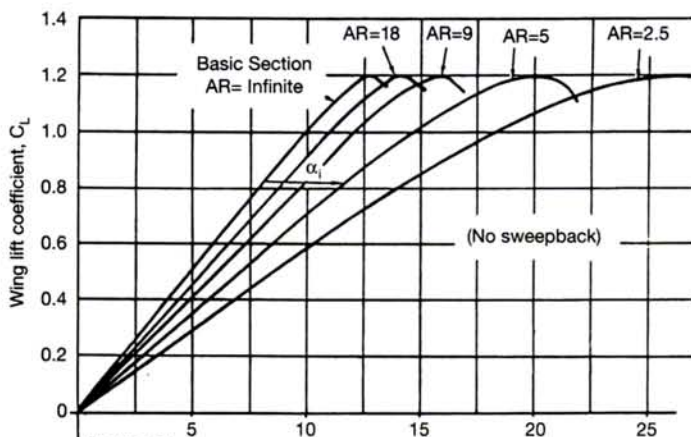

Figure 4A.
- The wing behaves as though its aspect ratio had increased, causing an increase in lift coefficient (see Figure 4A), a large